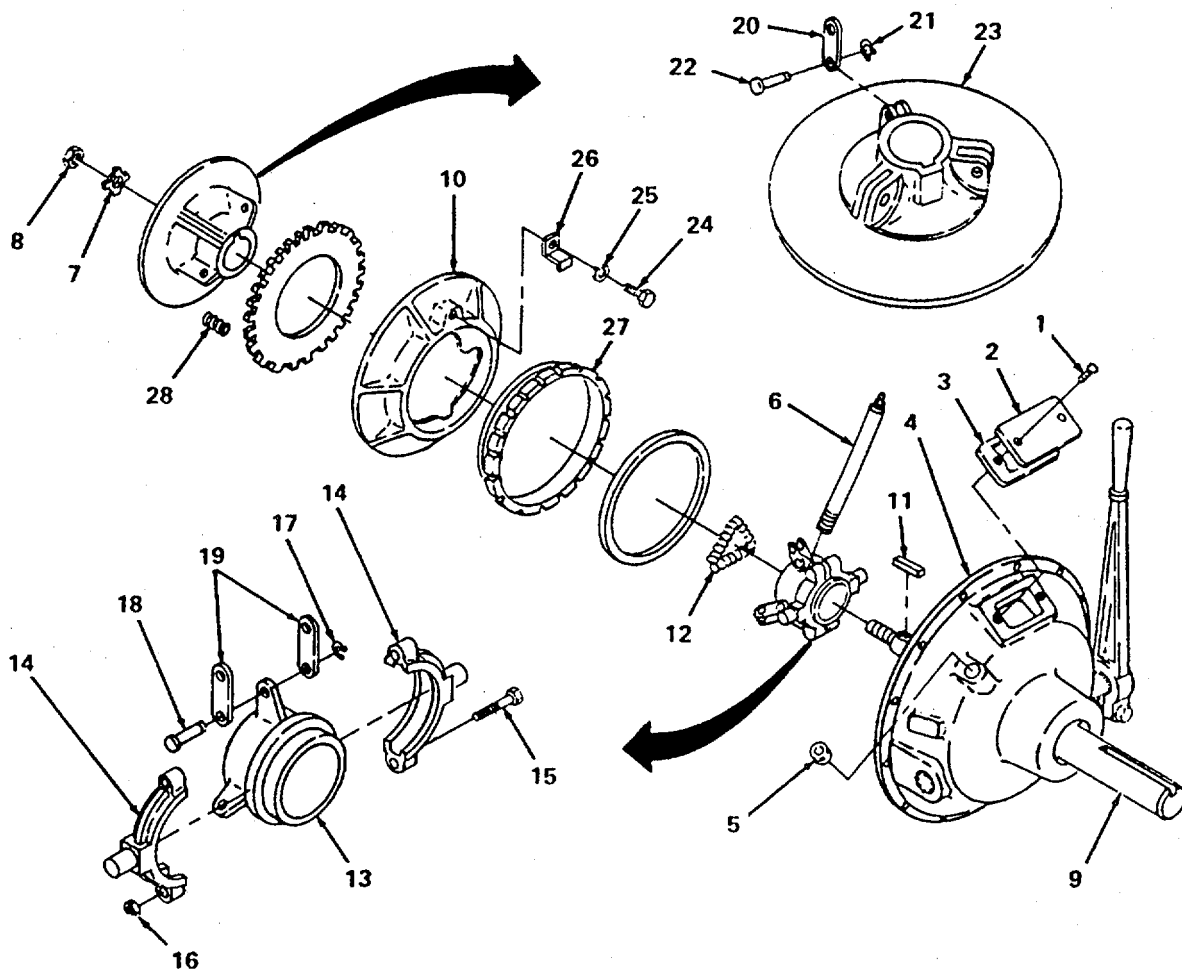

Figure 6-4. Clutch Removal and Disassembly.
- (1) Remove external housing components.
- (a) Remove two screws (1, figure 6-4), nameplate (2) and gasket (3) from power take-off housing (4).
- (b) Remove jam nut (5) from grease hose (6) and push hose to inside of housing.
- (2) Remove clutch assembly from shaft.
- (a) Bend locking tab on plate (7) away from nut (8) and remove both nut and plate from shaft (9).
- (b) Insert prybars into housing (4) under pressure plate (10) and, while applying upward pressure, tap end of shaft (9) with a soft hammer to free clutch assembly and key (11).
- (3) Disassemble clutch assembly.
- (a) Remove lever spring (12) from clutch release sleeve (13).